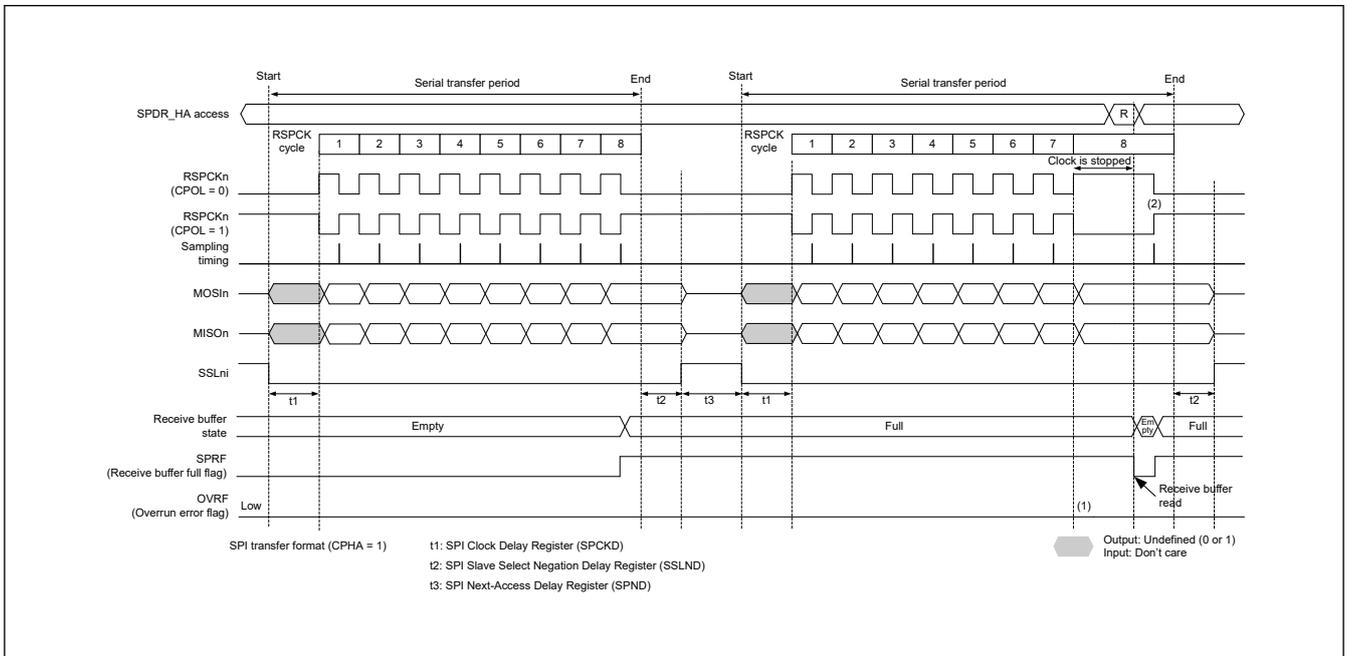
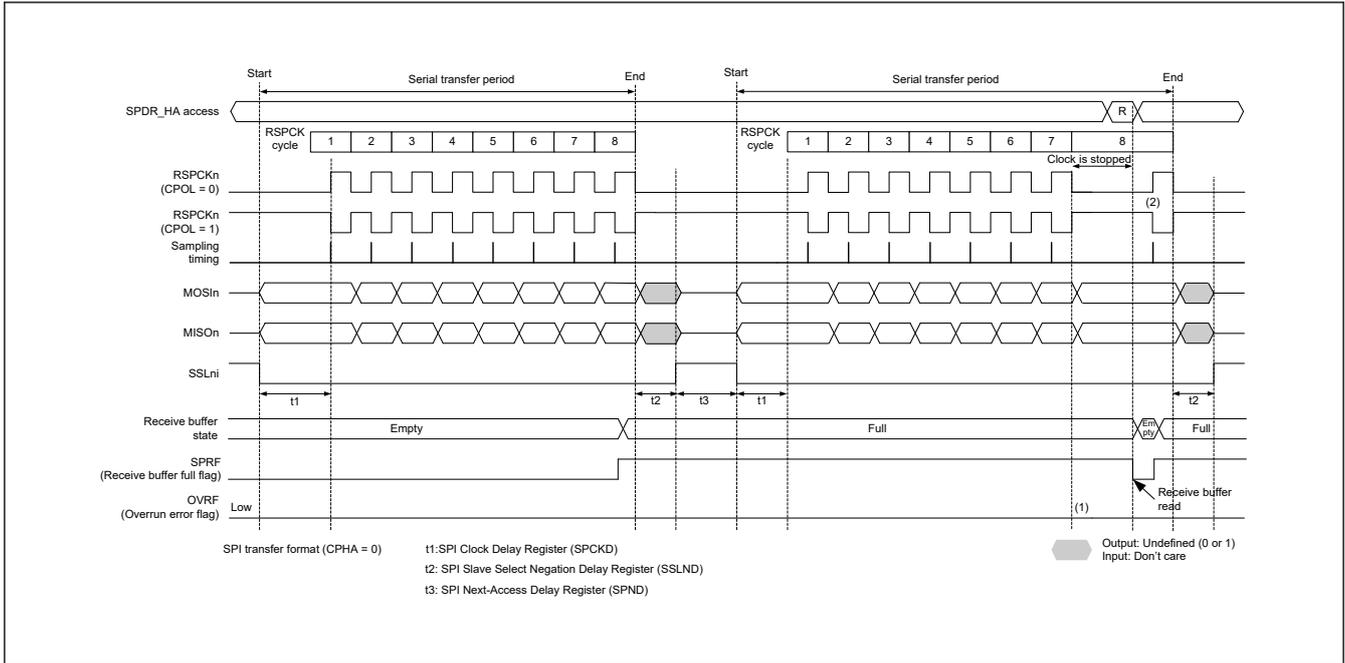

Figure 27.28 Clock stop waveform when serial transfer continues while receive buffer is full in master mode (CPHA = 1)
Figure 27.29 Clock stop waveform when serial transfer continues while receive buffer is full in master mode (CPHA = 0)
When the RSPCK auto-stop function is enabled (SPCR2.SCKASE = 1) in master mode, an overrun error does not occur. Figure 27.28 and Figure 27.29 show the clock stop waveform when a serial transfer continues while the receive buffer is full in master mode.
The operation of the flags at timings (1) and (2) in Figure 27.28 and Figure 27.29 is as follows: